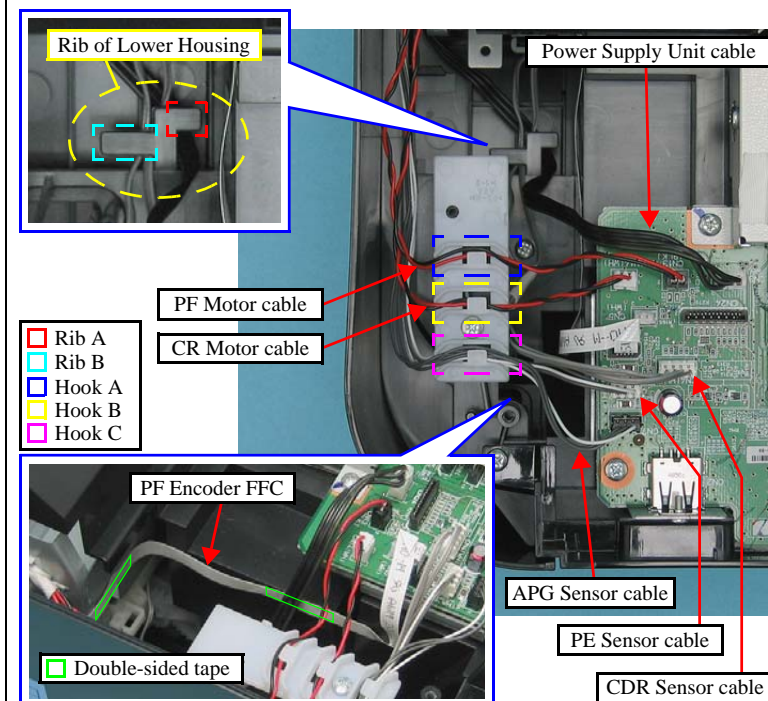

Figure 4-39. Routing the Cables
- For routing the cables, see Figure 4-39(p.79).